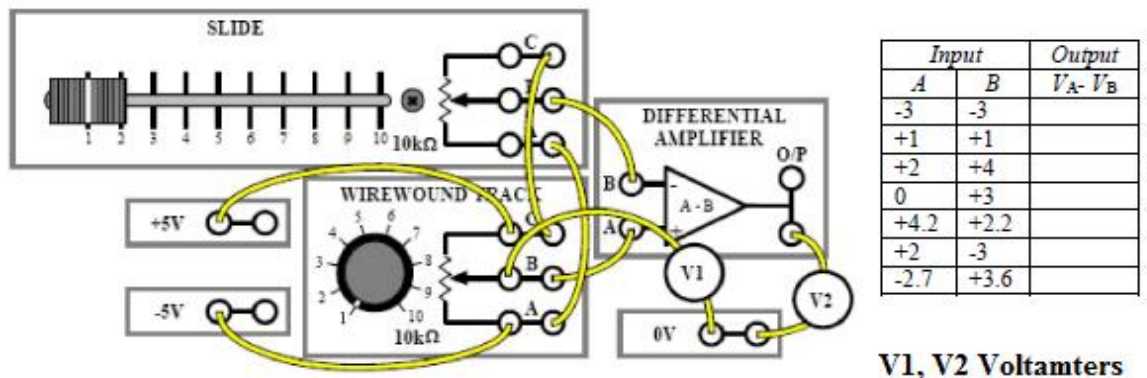

Figure 1. Differential amplifier set-up
- 2.1.1. Consider the 10k wire wound resistor in Figure 1. Connect lead C to 12 volts and lead A to 0 volt. Change the resistor's setting by increments of 2 and record the voltage at lead B. Draw the curve for this voltage versus resistor setting.
- 2.1.2. Consider the differential amplifier as given in Figure 1. Apply voltages to the leads of the device using DC voltages (0V, $\pm 5V$). Vary these voltages and observe the output voltage of differential amplifier.